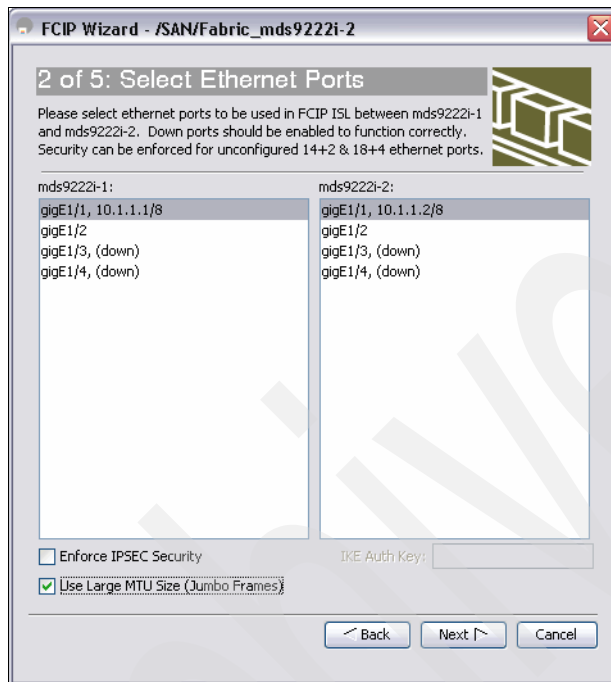

Figure 7-7 FM FCIP Wizard panel 2 of 5
2. In the next panel, shown in Figure 7-7, we configure which Gigabit Ethernet interfaces will make up the link. Highlight the correct interface from each switch and click **Next**. In this example, we connect interface gigE1/1 on 9222i-1 to the interface gigE1/1 on 9222i-2 by clicking the ports.